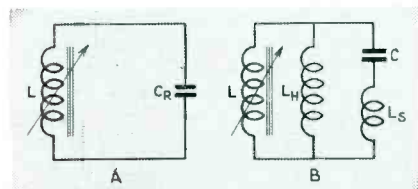

Fig. 4. Permeability tuned circuit; trimmer in series with the capacitance
This circuit, shown in Fig. 4, is similar in form to that of Fig. 2. The design equations are derived in a manner similar to that in the previous cases. The equations are,
and not differential values for values of L in Fig. 4 should be kept in mind as in the previous equivalent case of Fig. 2, where absolute values of C are assigned. Here again the similarity between Eqs. (13) and (19), (14) and (20), (15) and (21) should be noted.